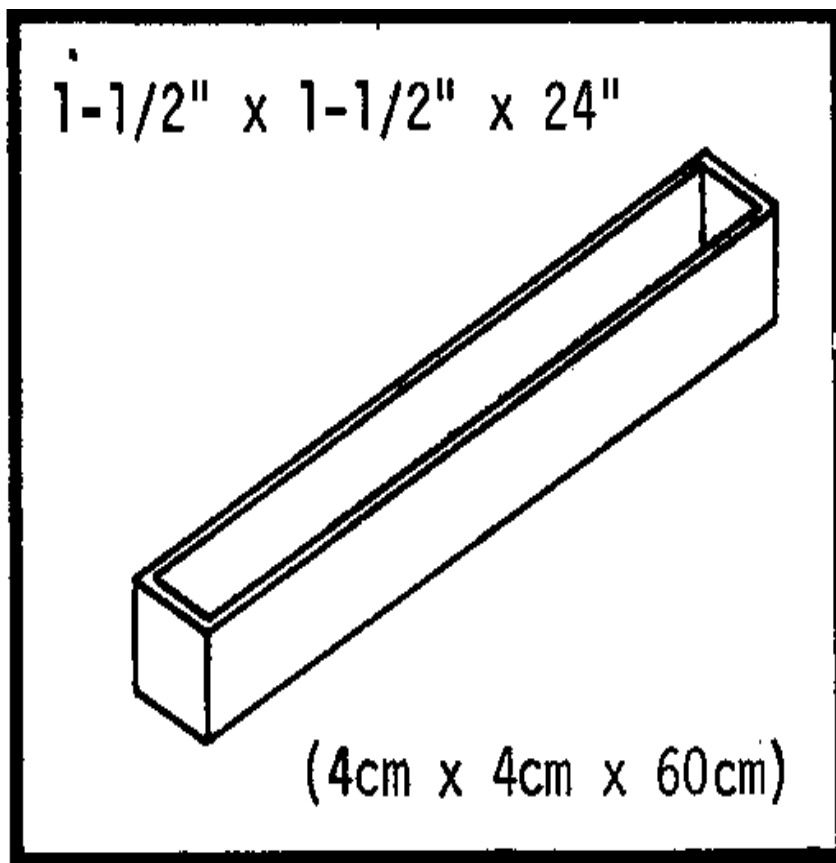

Fig. 3 - Box for Box Test.
(2) Drop the ball from a height of about three feet onto hard ground. If the ball breaks into a few smaller pieces, the packing quality is good to fair. If it disintegrates, the quality is poor.
18. Box Test The box test is a guide to the proper soil-cement ratio. It measures the shrinkage of soil which contains no stabilizer. The box should have these inside measurements: 24" x 1-1/2" x 1-1/2" (4cm x 4cm x 60 cm) (see Fig. 3).